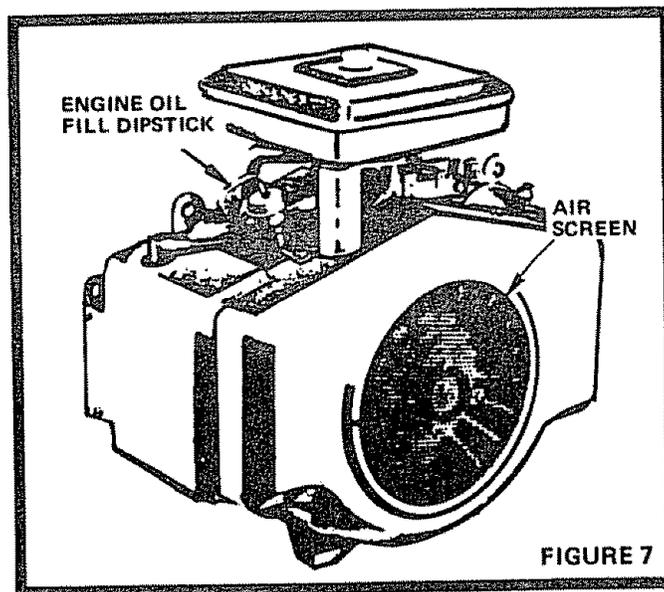

FIGURE 7
1. Check Engine Oil Level with Tractor on level ground. Wipe dipstick (Fig. 7) clean, push it in tight for a few seconds, remove and read Oil Level. If necessary, add Oil until "FULL" mark is reached. In summer use S.A.E. 30 (SC, SD, SE or SF) Oil. In winter (below 32°F.) use S.A.E. 10W30 (SC, SD, SE or SF). In extreme cold (below 0°F.) use S.A.E. 5W20 (SC, SD, SE or SF). DO NOT USE 10W40 OIL. NOTE: DO NOT OVERFILL.